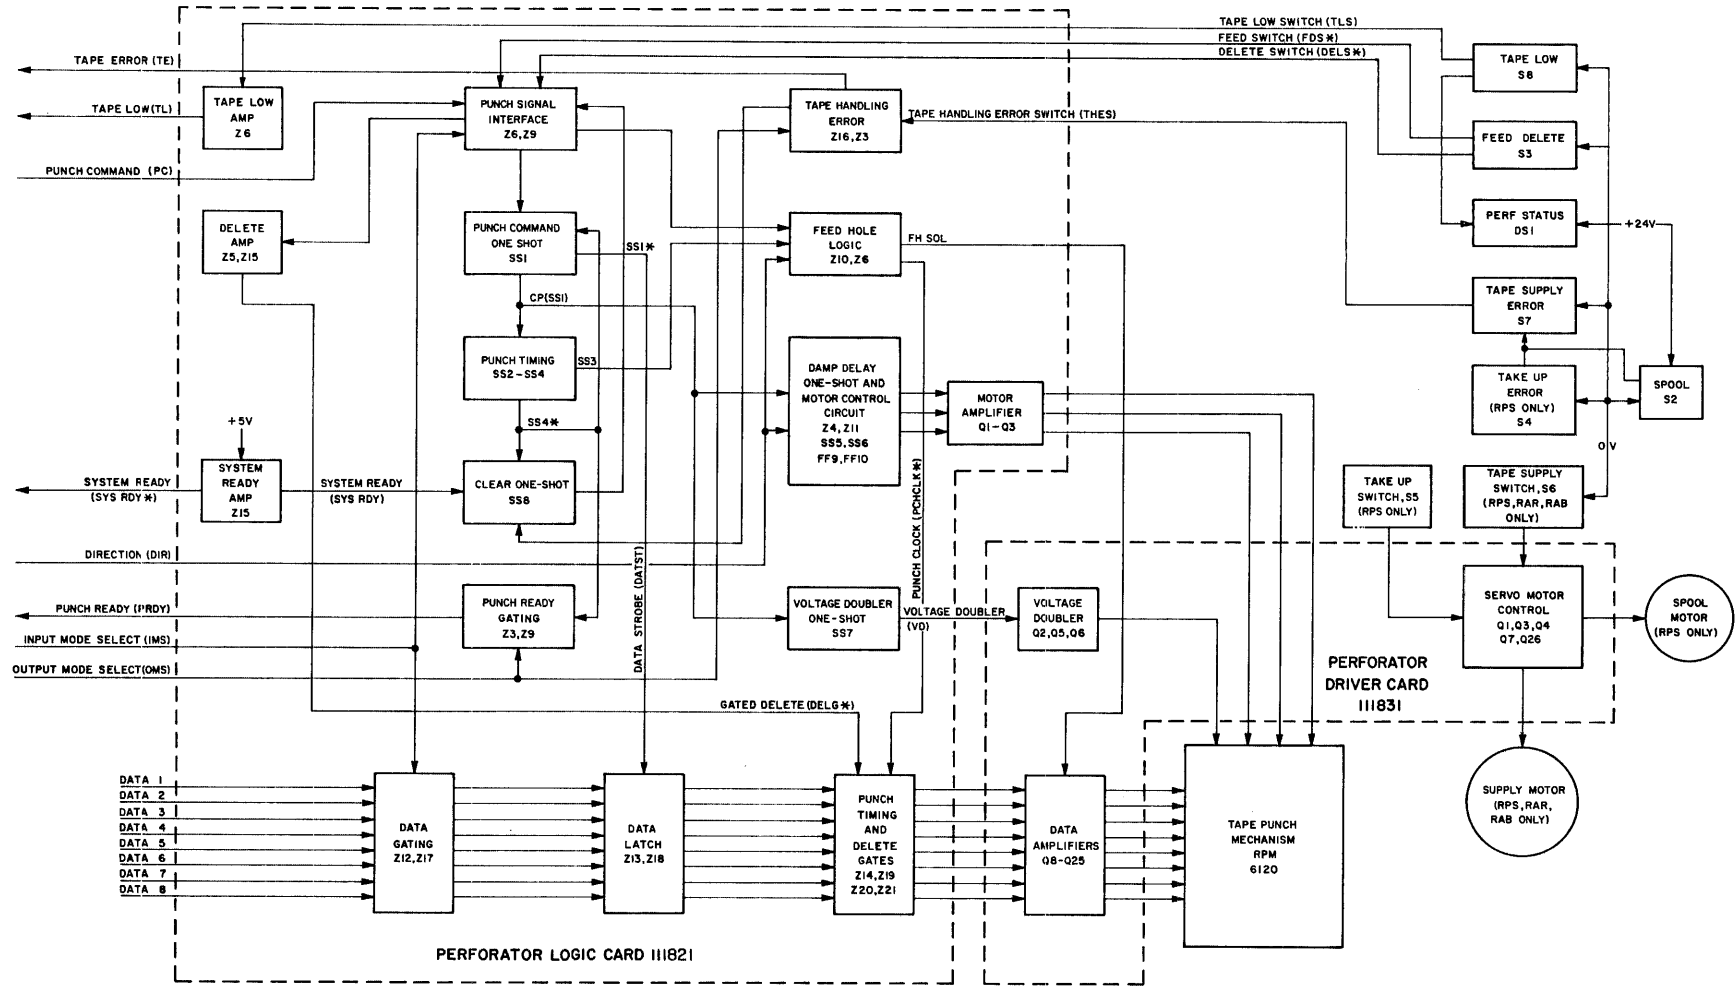

Figure 4-1. Block Diagram, Perforator Section
The REMEX tape reader/perforator system performs two basic functions: (1) controls the operation of the RPM 6120 punch mechanism in response to input control signals, and (2) reads small rolls (RAB units) or fanfolded (RAF units) tapes. Each function is described below in block diagram form and illustrated in Figures 4-1 and 4-2. See also the system schematics, Figures 8-1 through 8-3. Electronic descriptions are given in Section 4.2.
P.C. Card 111821 (schematic 111822) and 111831 (schematic 111832) are used to operate the punch mechanism by controlling (1) the logic and timing of the perforator and the direction of tape movement and (2) the data logic and solenoid driver amplifiers. Refer to Block Diagram, Figure 4-1.